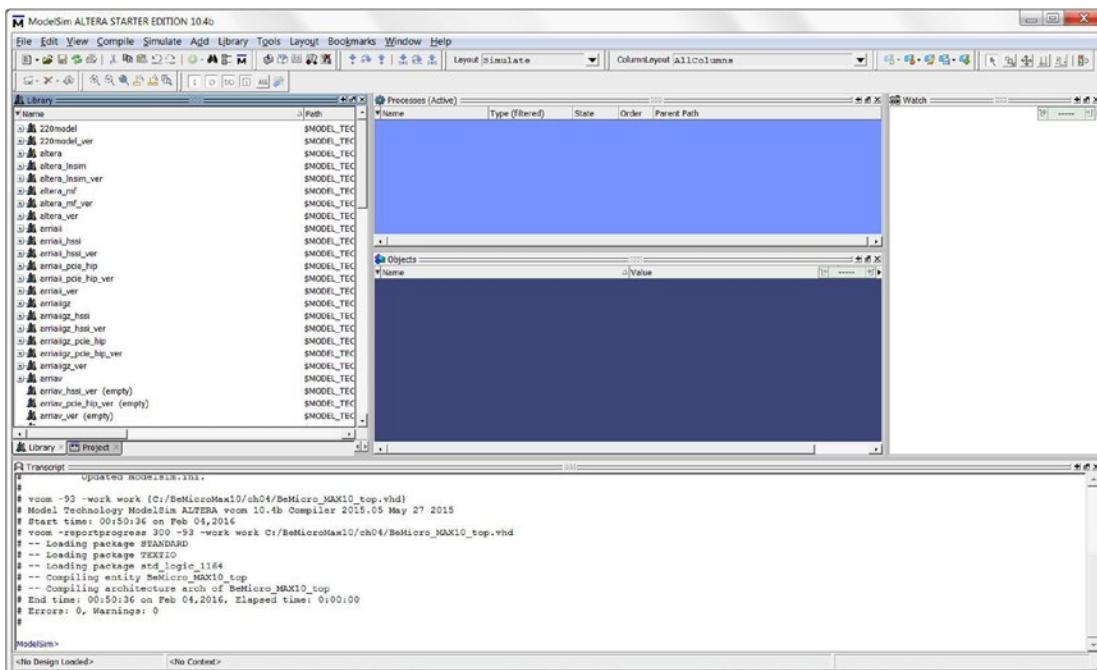
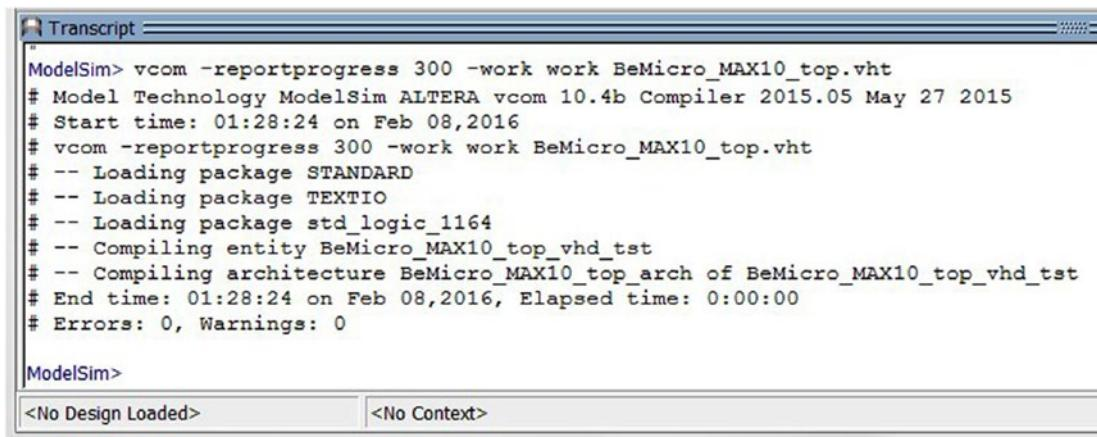

Figure 4-35. ModelSim ALTERA STARTER EDITION
Figure 4-36. ModelSim ALTERA STARTER EDITION
4. ModelSim ALTERA STARTER EDITION should open (Figure 4-35). In the transcript, you should find the last line is **ModelSim▶**. Enter the following Tcl command and hit Enter. Once completed you should see Figure 4-36 in the Transcript log.